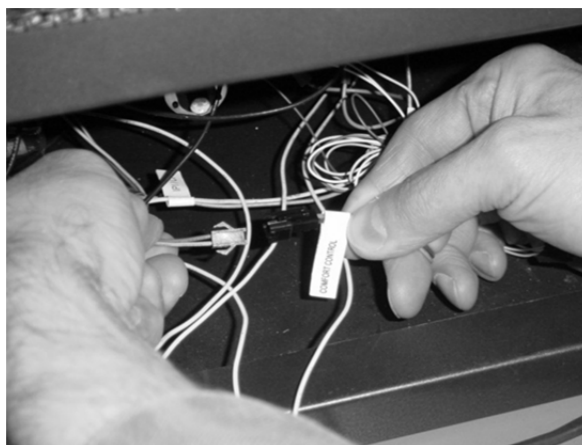

Figure 23
- 14 Attach the wiring harness to the comfort control valve connection (see Figure 23).